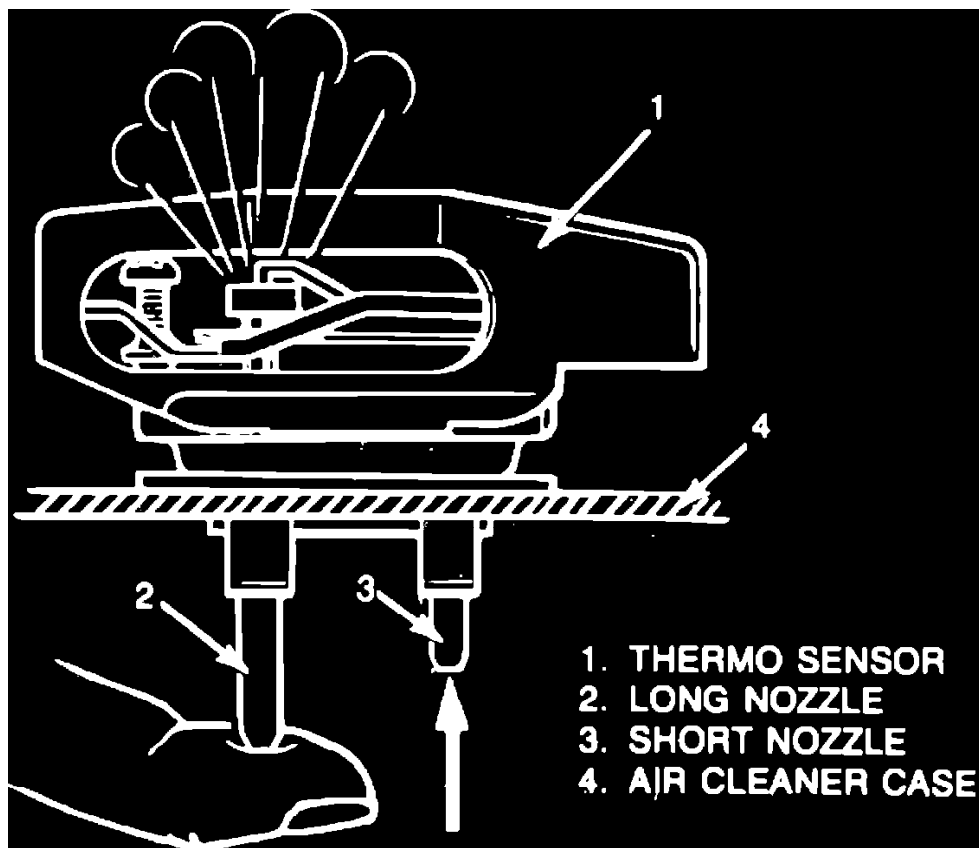

Fig. 33 Testing thermo-sensor
4. Cover long nozzle with finger and blow air into short nozzle, **Fig. 33**. Valve should be open at temperatures above 104°F and closed at temperatures below 77°F.